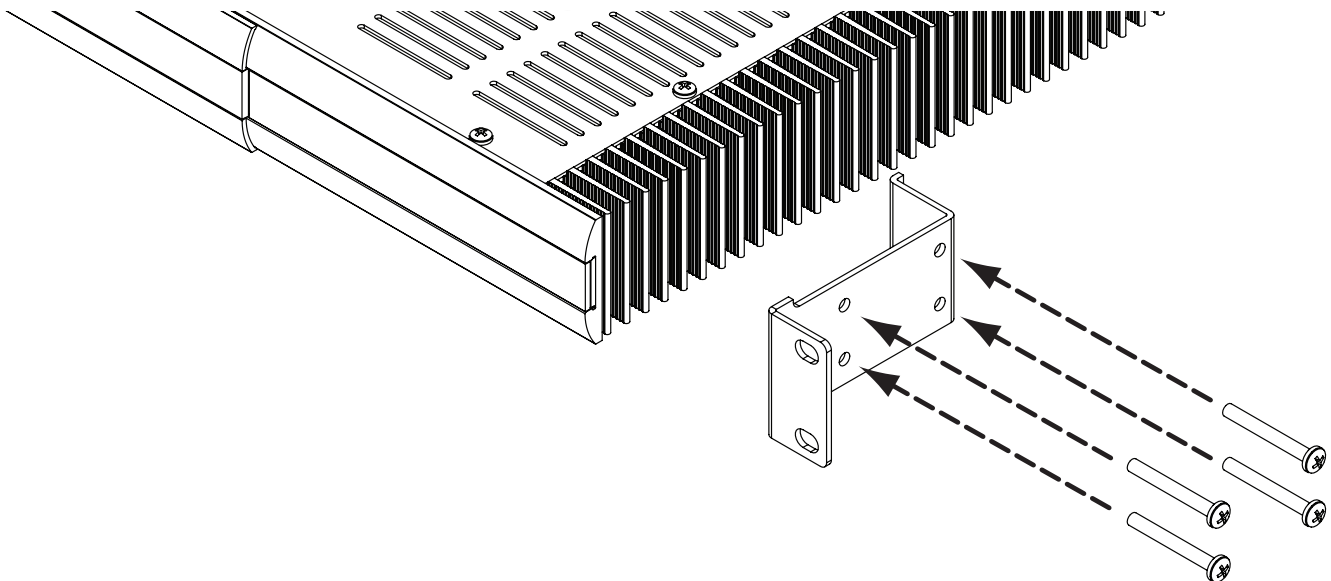

Figure B-2
2. Ensure that the unit is flush with the front of the mounting kit. Install each of the eight screws (included) through the side mounting flanges into the holes in the sides of the unit as shown in *Figure B-2*. Hand tighten screws! Over-tightening could cause damage to the A2 Amplifier.